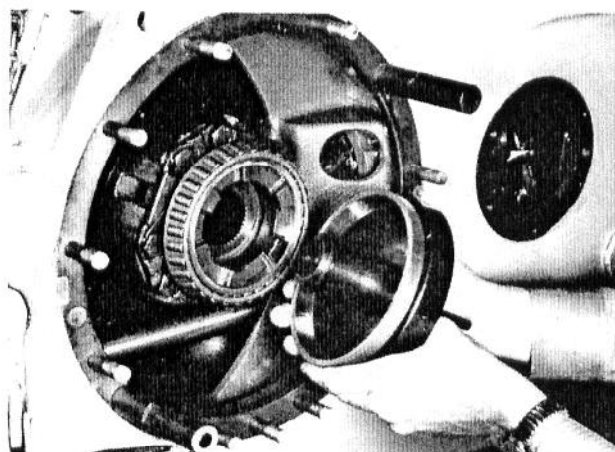

Fig. 80 - Locating Bearing on Centering Hub (Diff. Lock)
3. Thoroughly clean the center housing surface around the studs where the clamping bar and gauge spools are to be attached. Refer to Fig. 80.